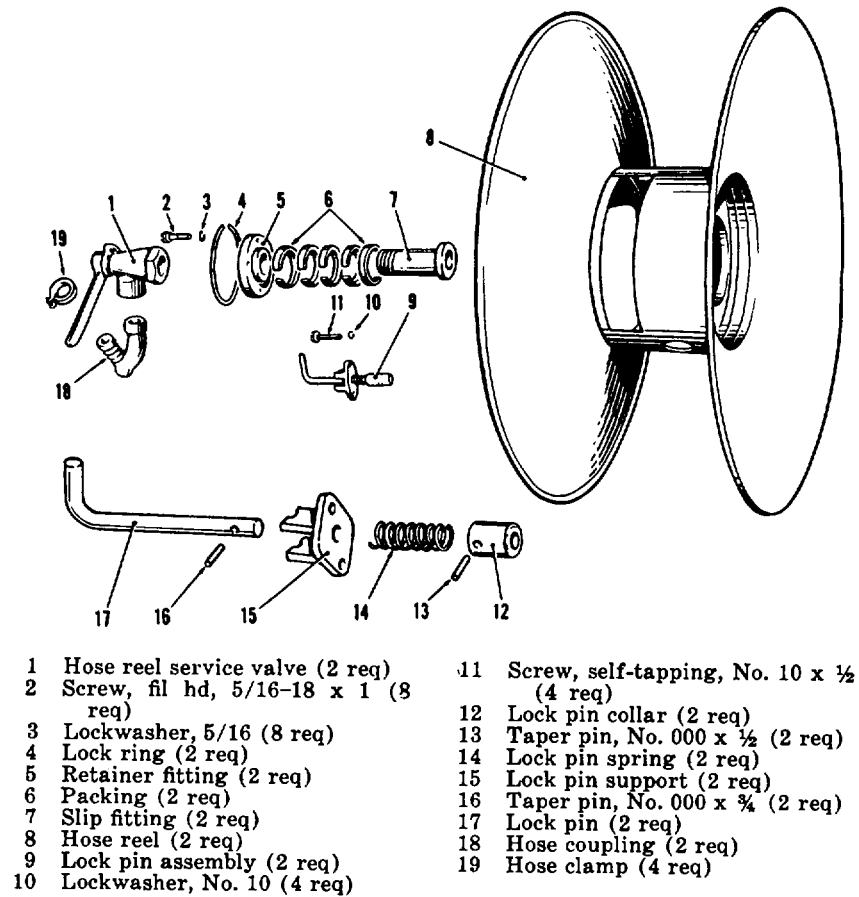

Figure 50. Exploded view of hose reel.
a. Removal (fig. 50).
- (1) Remove the hose from the hose reel (par. 112a).
- (2) Unscrew the service valve (1) from the end of the slip fittings (7) and disassemble the hose coupling (18) from the valve.
- (3) Remove the lock ring (4) from the groove around the reel shaft hub, and slide off the reel.
b. Disassembly (fig. 50).
- (1) Remove the two self-tapping screws (11) and lockwashers (10) and lift the lock pin assembly (9) from the hose reel (8). If the lock pin assembly is to be disassembled, support it solidly while driving out the taper pins (13 and 16). Then slip the collar (12), spring (14) and support (15) from the lock pin (17).
- (2) Remove the four fillister head screws (2) and lockwashers (3) that fasten the retainer fitting (5) inside the reel shaft hub, and remove the retainer fitting, slip fitting (7) and packing (6).
d. Reassembly (fig. 50).
- (1) Assemble the packing (6) and retainer fitting (5) to the slip fitting (7) and insert this assembled group into the recess in the hose reel shaft hub. Install the four fillister head screws (2) and lockwashers (3), tightening the screws evenly until the retainer fitting is firm. Do not overtighten these screws.
- (2) Secure the support (15) to the lock pin (17) with the taper pin (16). Slide the spring (14) over the end of
e. *Installation* (fig. 50).